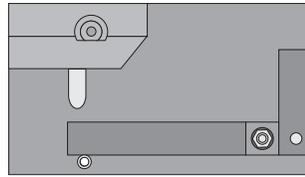

Figure 4: Start Position
2. Place the lever arm in the starting position. Turn the crank counter-clockwise and pull the lever arm away from the Force Sensor (Figure 4).**3. Plot Position versus Force.**
2. **Place the lever arm in the starting position.** Turn the crank counter-clockwise and pull the lever arm away from the Force Sensor (Figure 4).